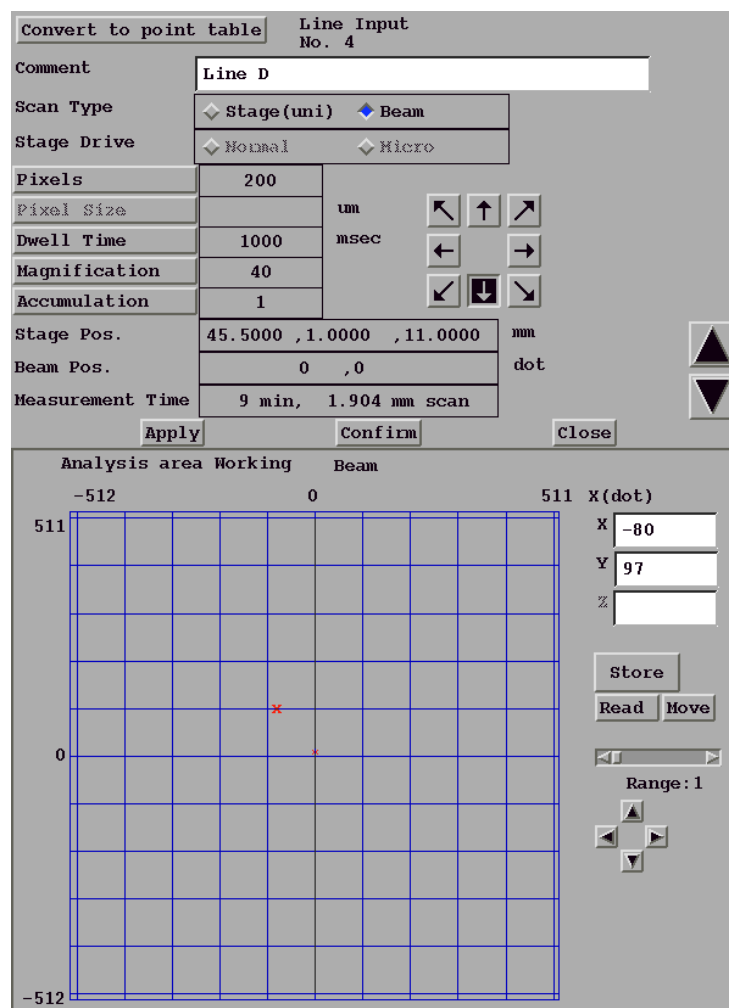

Fig. 17 Line Input/Analysis area Working (Beam) window
1. Select **Beam** for **Scan Type** by clicking on the **Beam** button (see Fig. 17).